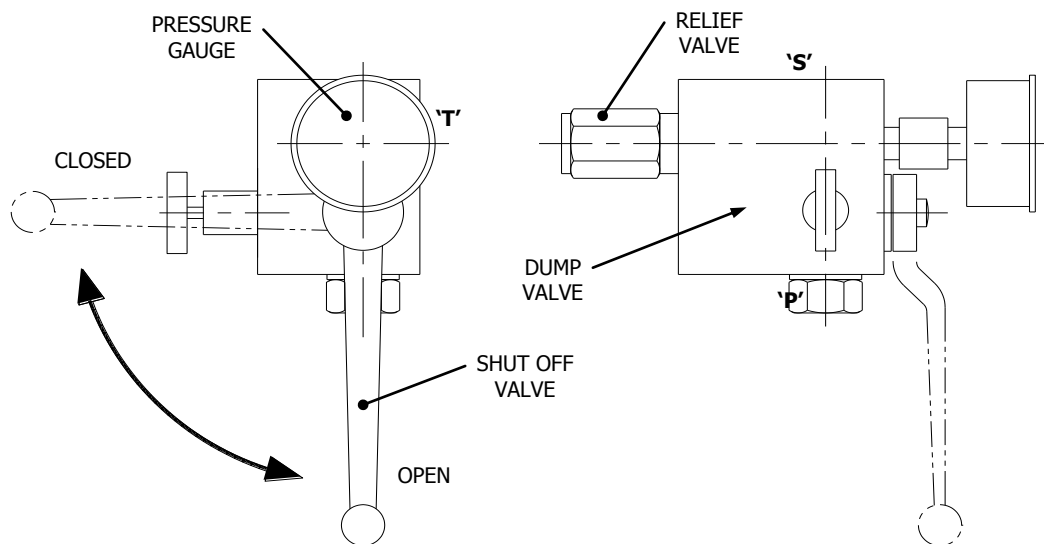

Figure 6.12: Accumulator Safety Block
- Dump all of the oil in the accumulator to the reservoir, by slowly opening the dump valve on the safety block. Refer to figure 6.12: Accumulator Safety Block.
- With zero hydraulic pressure in the accumulator, isolate from the rest of the system by rotating the shut off valve to 'OFF' (closed). Refer to figure 6.12: Accumulator Safety Block.
- Dump all of the oil in the accumulators to the reservoir, by slowly opening the dump valve on the safety block. Refer to figure 6.12: Accumulator Safety Block.